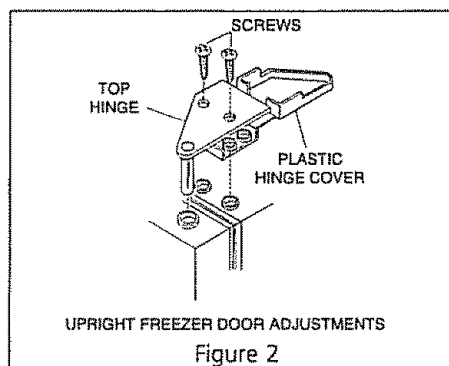

Figure 2
- At the top of the cabinet, lift up plastic hinge cover, and fold back. (Figure 2 below)
- **On chest models** with a defrost drain, place a shallow pan or the Divider/Drain Pan (some models) beneath the drain outlet (Figure 2). A one half inch garden hose adaptor can be used to drain the freezer directly into a floor drain (Figure 3). Pull out the drain plug inside the freezer, and pull off the outside defrost drain plug (Figure 4 on following page).